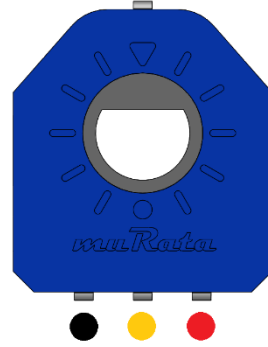

Figure 7: Potentiometer polarity
3. Use black heat-shrink on the connections near the potentiometer, and coloured heat shrink on the far connections corresponding to the polarity noted in Figure 7.